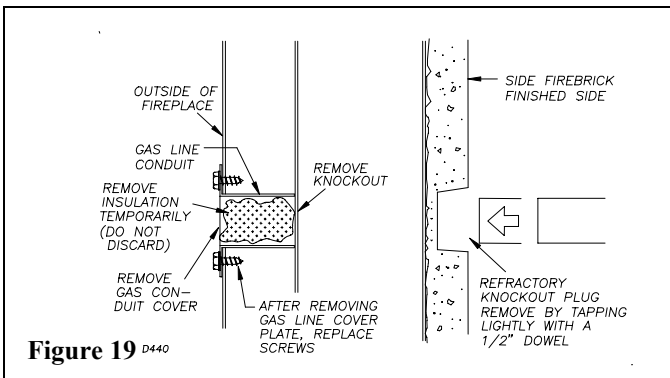

Figure 19 D440
STEP 1: To install, remove the knockout indentation on the refractory, (or firebrick), wall located approximately 2 inches above the refractory hearth floor. The knockout indentation must be firmly tapped with any solid object until it is released. Remove fragmented portions of refractory (see figure 19).